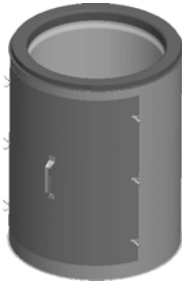

Figure 73
1. Unscrew the six (6) wing screws with your hands and set them in a safe place during the inspection (*see figure 73*).